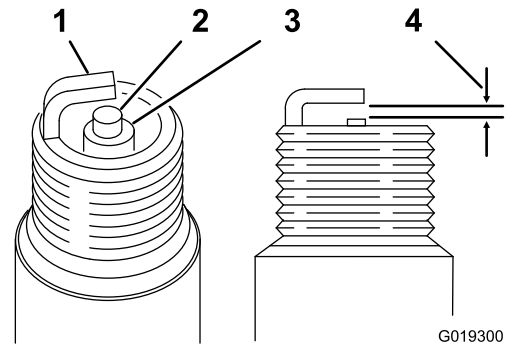

Figure 45
2. Use a gapping tool for spark plugs or a feeler gauge to measure the gap between the side electrode and center electrode (Figure 45).
1. Look at the center of the spark plug (Figure 45). If you see light brown or gray on the insulator, the engine is operating properly.